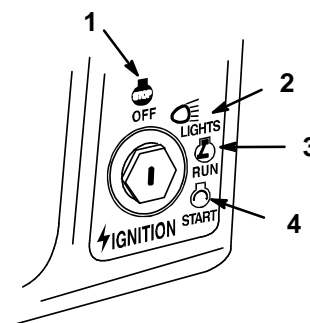

Figure 6
6. Turn the ignition key clockwise and hold it in the “START” position (Fig. 6). When the engine starts, release the key.
2. Turn the ignition key to “OFF” (Fig. 6).